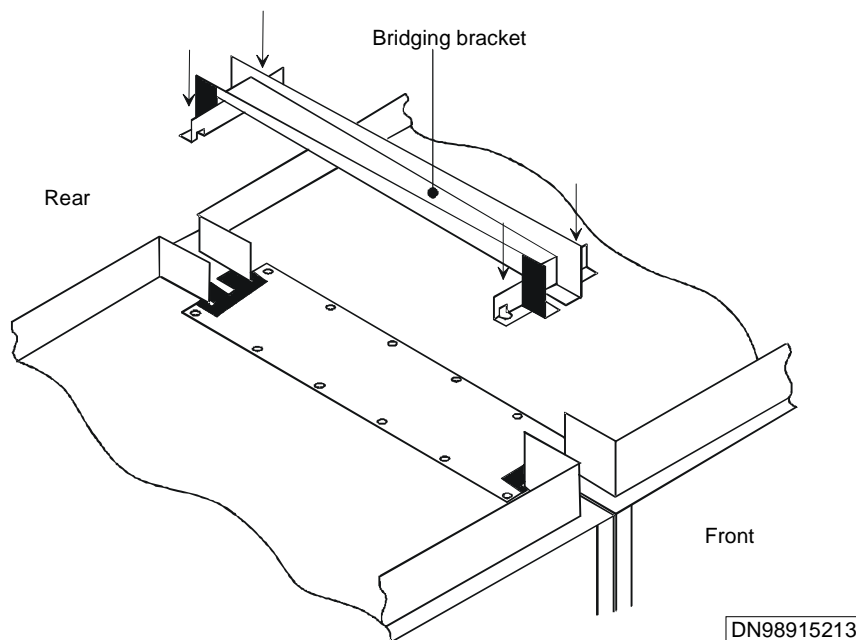

Figure 21 Positioning the bridging bracket
5. Place the bridging bracket on top of the bridging plate: first fit the bracket's narrow end to the rear of the cabinet, and then fit the bracket's broad end to the front as shown in Figure 21. Be careful not to damage the seals at both ends of the bracket. Lubricate if necessary.